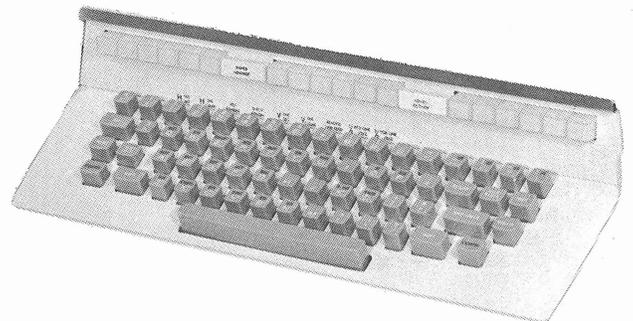

Figure 1 - 37 Keyboard Unit W/Control Panel
1.01 This section provides lubrication procedures for the late design, 11-contact 37 keyboard unit (Figure 1). It is reissued to delete information on the base and reset mechanisms placed in Section 574-331-100. Since this is a general revision, marginal arrows normally used to indicate changes have been omitted.